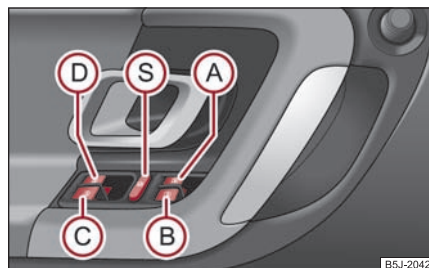

Fig. 43 Buttons on the driver's door
The buttons for the individual windows are located in the operating part in the driver's door → page 46, fig. 43, front passenger door and in the rear doors*.
You can deactivate the buttons for power windows at rear doors by pressing the safety pushbutton  → page 46, fig. 43. The buttons for power windows at rear doors are activated again by pressing the safety pushbutton  again.
- It is recommended to deactivate the electrically operated power windows in the rear doors (safety pushbutton)  ⇒ page 46, fig. 43 when children are being transported on the rear seats.